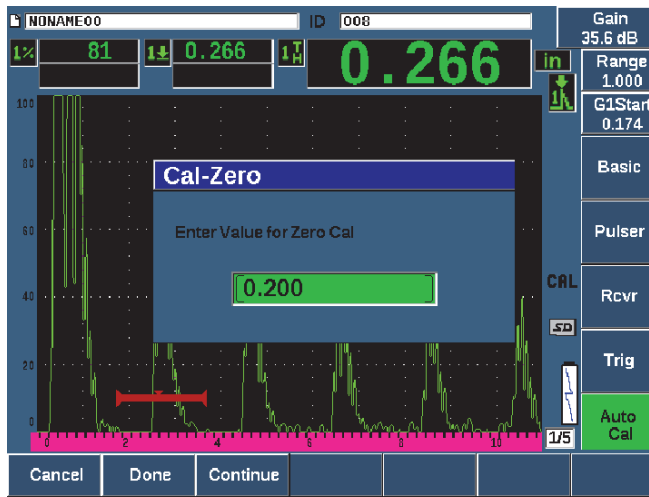

Figure 3-14 The Cal-Zero value
7. Adjust the displayed value to the appropriate thickness. For this example, the transducer is coupled to a 5 mm (0.200 in.) step (see Figure 3-14 on page 76).